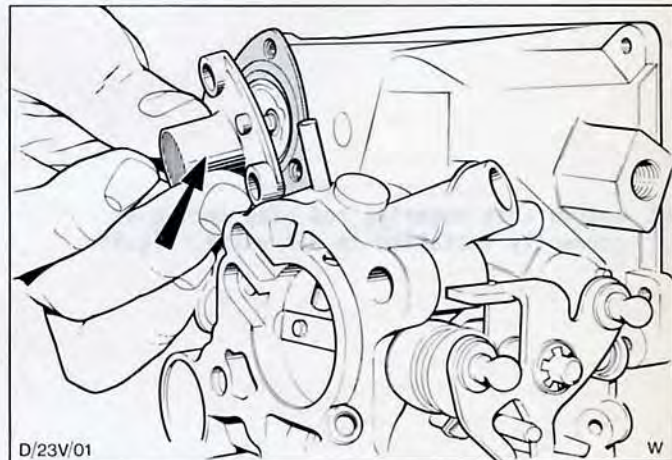

Fig.52. Accelerator pump housing removal.
9. Invert carburettor, remove three cross head screws and detach accelerator pump diaphragm, also taking care return spring is not lost, Fig.52.